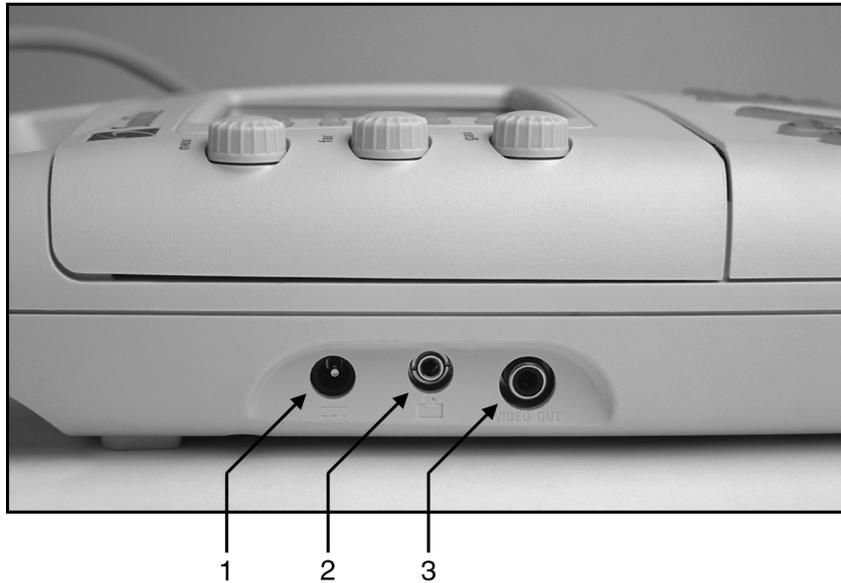

Figure 4.6 System Connections
2. Connect the AC power adapter to the power receptacle on the system (1) (Figure 4.6 and Table 4.2).
1. Connect a recommended printer to the system using the recommended printer control cable. The receptacles are on the left side of the system. There are two connections required: **VIDEO OUT** (3 in Figure 4.6) and **remote** icon (2 in Figure 4.6).
1. Connect a recommended VCR to the system using the recommended video cable. The receptacle is on the left side of the system. There is one connection required: **VIDEO OUT** (3 in Figure 4.6).
1. Connect a recommended video monitor to the system using the recommended video cable. The receptacle is on the left side of the system. There is one connection required: **VIDEO OUT** (3 in Figure 4.6).